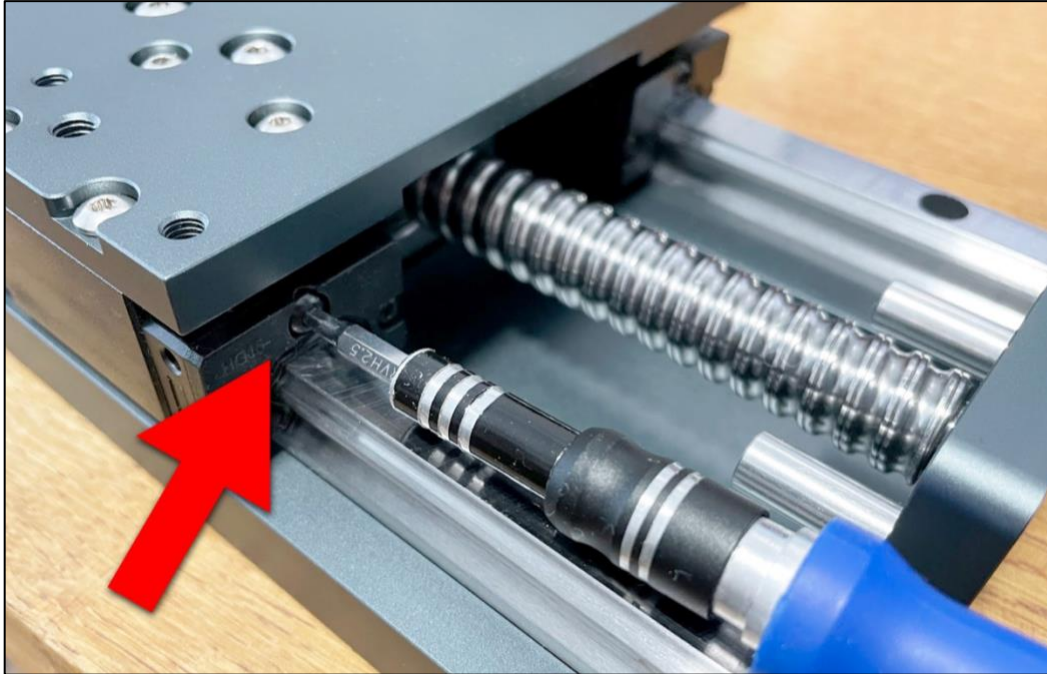

Figure 5
4. Remove the small M4 grub screw in the center of each carriage. See *Fig. 5.* *